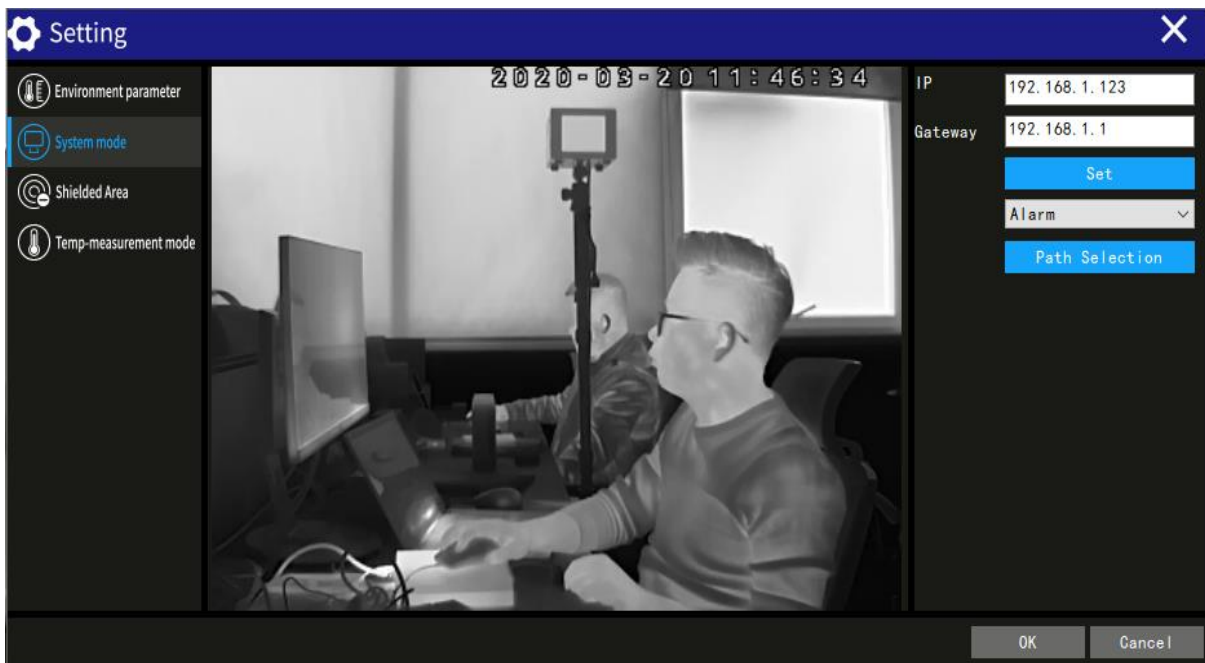

Figure 2.2 System software system configuration interface
2. **System configuration:** the set IP can be modified, as shown in figure 2.2.